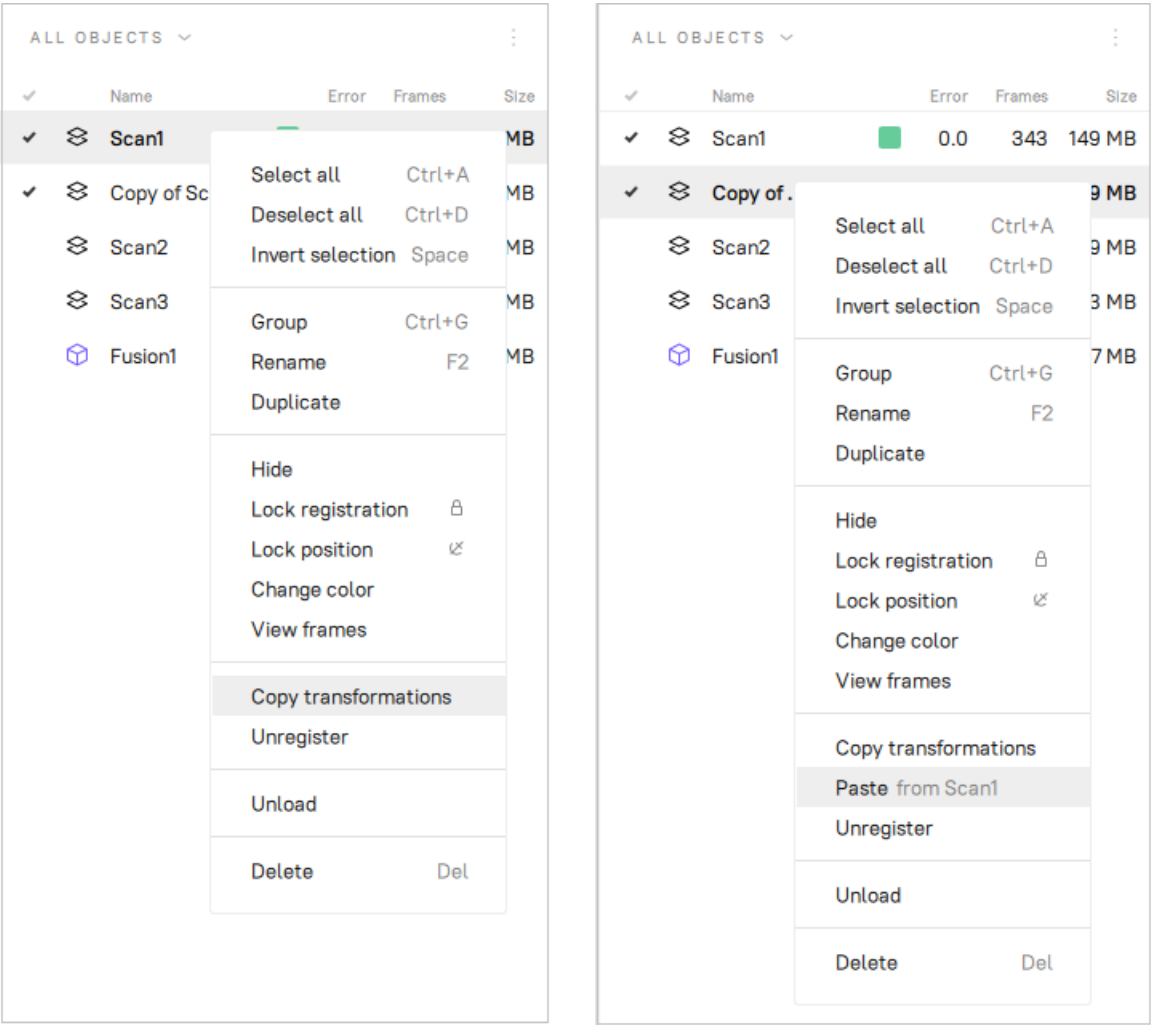

Figure 150: Transferring transformations: copying transformations (left) and pasting them (right)
1. In the Workspace panel, right-click the source scan and choose *Copy Transformation* from the context menu (see Figure 150, left). The transformations of the source scan and its frames will be saved.
3. Right-click the selected scan(s) and from the context menu choose *Paste from <source scan name>* (see Figure 150, right).